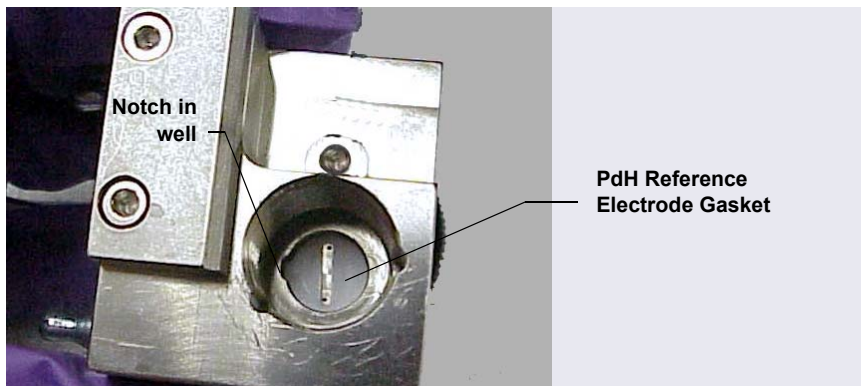

Figure 9-69. Removing the PdH Reference Electrode Gasket
4. Using tweezers, remove the PdH reference electrode gasket from the well (see Figure 9-69).